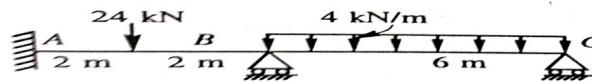

Figure 2.
4. Analyze the continuous beam shown in figure 2, by using Moment Distribution Method. The yielding of supports permits a clockwise rotation of  $4/EI$  at A and vertical downward settlements of  $24/EI$  and  $12/EI$  at B and C respectively. The flexural rigidity EI is constant. [14M]